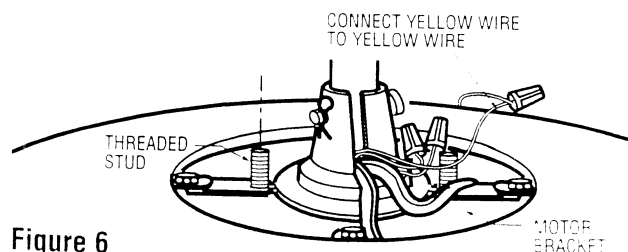
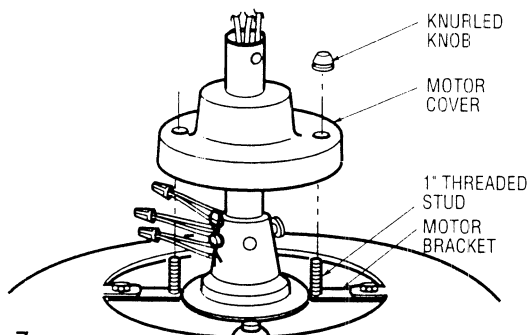

Figure 6
Figure 7
- Screw the two threaded studs (select the proper length stud as described in the Ceiling Fan Owner's Manual) into the motor brackets. (Figure 6). Coil the wires and wire connectors around the motor coupling, then slide the motor cover over the hanger pipe and rotate the motor cover until the threaded studs protrude. Install two knurled knobs (supplied with ceiling fan) to secure the motor cover to the fan (Figure 7). All wires and wire connectors to be enclosed under motor coupling cover.